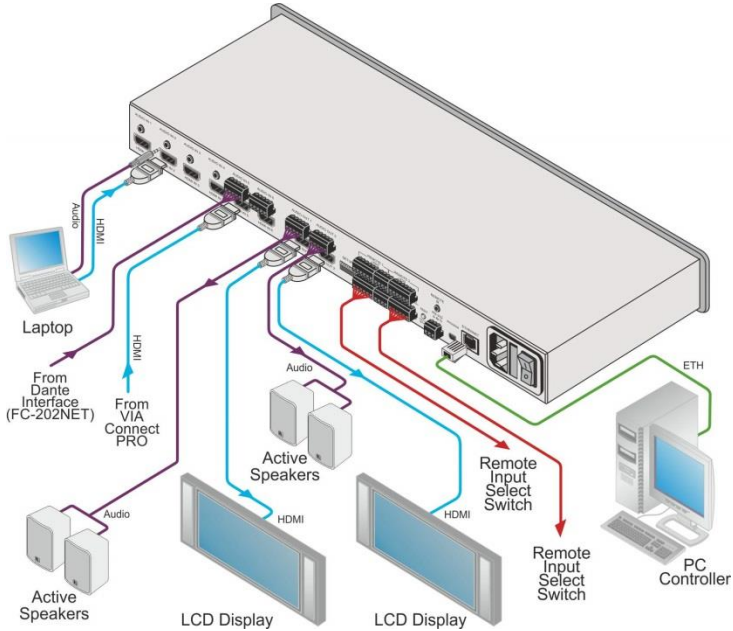

Figure 3: Connecting the VS-62HA 6x2 HDMI/Audio Matrix Switcher
To connect the **VS-62HA** as illustrated in the example in Figure 3:
8. Connect a power cord to the device and plug it into the mains electricity (not shown in Figure 3).